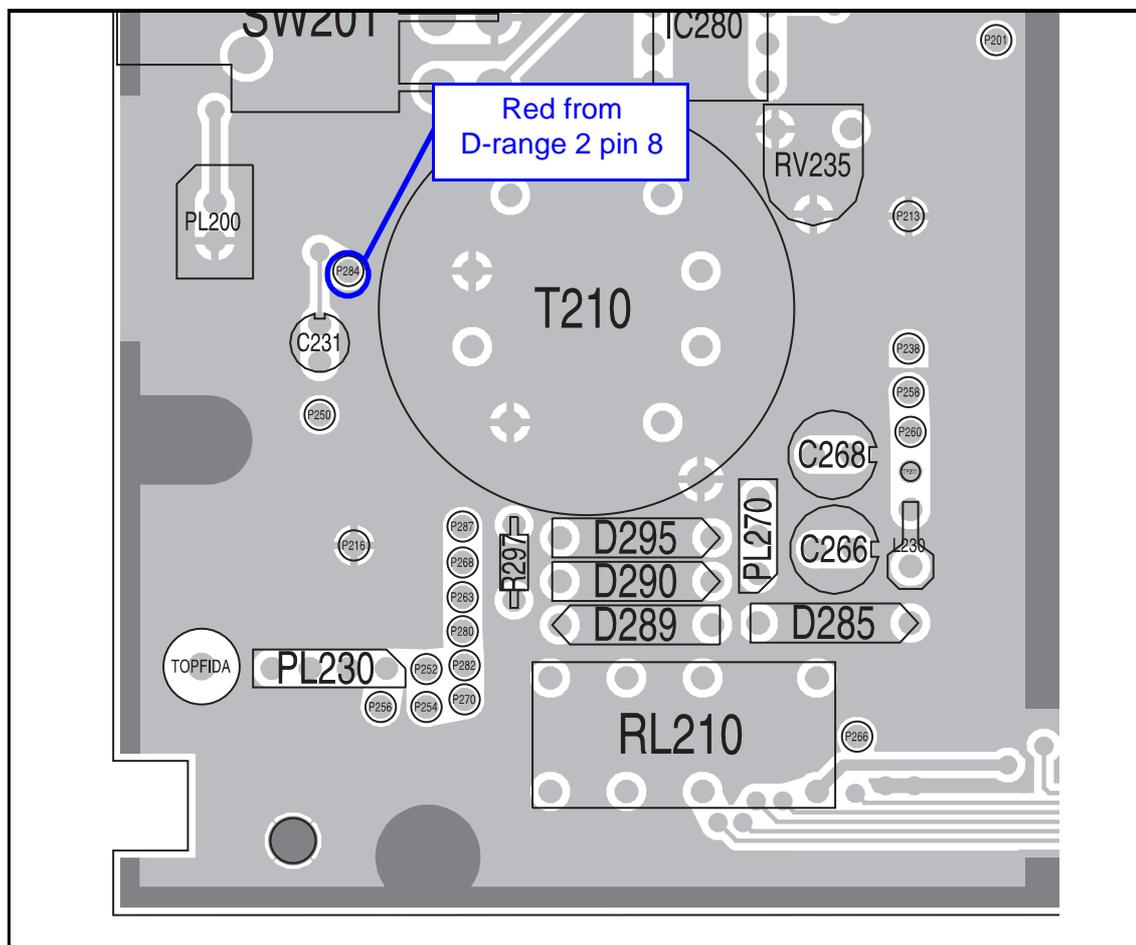

Figure 2 Bottom of T835 Receiver Audio Section
5. Connect the red wire ( Line Monitor) to P284, as shown in Figure 2.